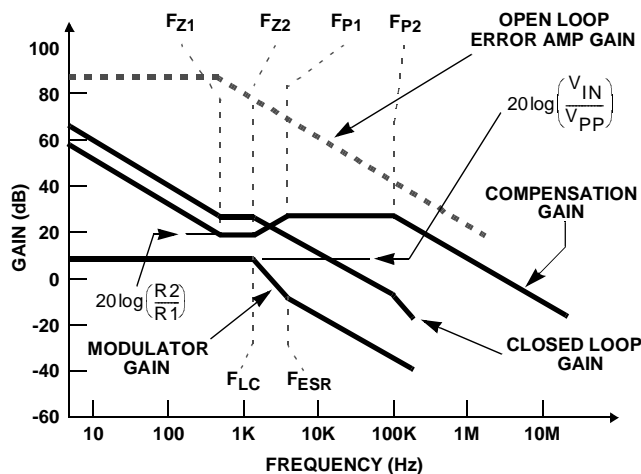

FIGURE 10. ASYMPTOTIC BODE PLOT OF CONVERTER GAIN
Figure 10 shows an asymptotic plot of the DC-DC converter's gain vs. frequency. The actual Modulator Gain has a high gain peak dependent on the quality factor (Q) of the output filter, which is not shown in Figure 9. Using the above guidelines should yield a Compensation Gain similar to the curve plotted. The open loop error amplifier gain bounds the compensation gain. Check the compensation gain at F_{P2} with the capabilities of the error amplifier. The Closed Loop Gain is constructed on the log-log graph of Figure 10 by adding the Modulator Gain (in dB) to the Compensation Gain (in dB). This is equivalent to multiplying the modulator transfer function to the compensation transfer function and plotting the gain.